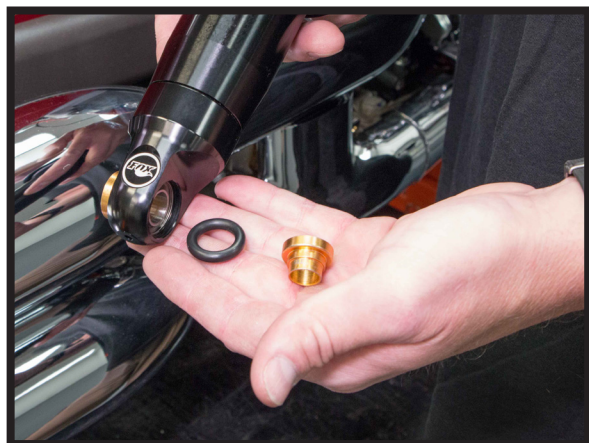

FIGURE 24
11. REMOVE THE OUTSIDE SPACER AND O-RING FROM BOTH AIR SHOCKS. USING THE INCLUDED BOLT ATTACH THE LOWER RIGHT SHOCK EYE TO THE SWING ARM AND SNUG TIGHT, THEN INSTALL THE SCREW COVER. (FIGURES 24, 25, 26)